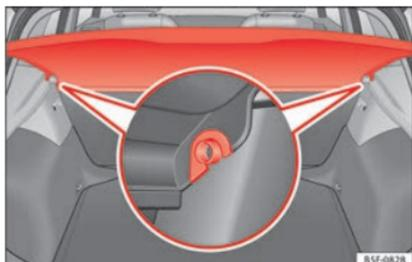

Fig. 161 In the luggage compartment: removing and installing the rear shelf.
- Remove the rear shelf from the side supports »» **Fig. 161** by pulling it upwards and then take it out.
- Insert the cover horizontally so that the “recess” fits onto the axis of the supports »» **Fig. 161** and press down until it engages.